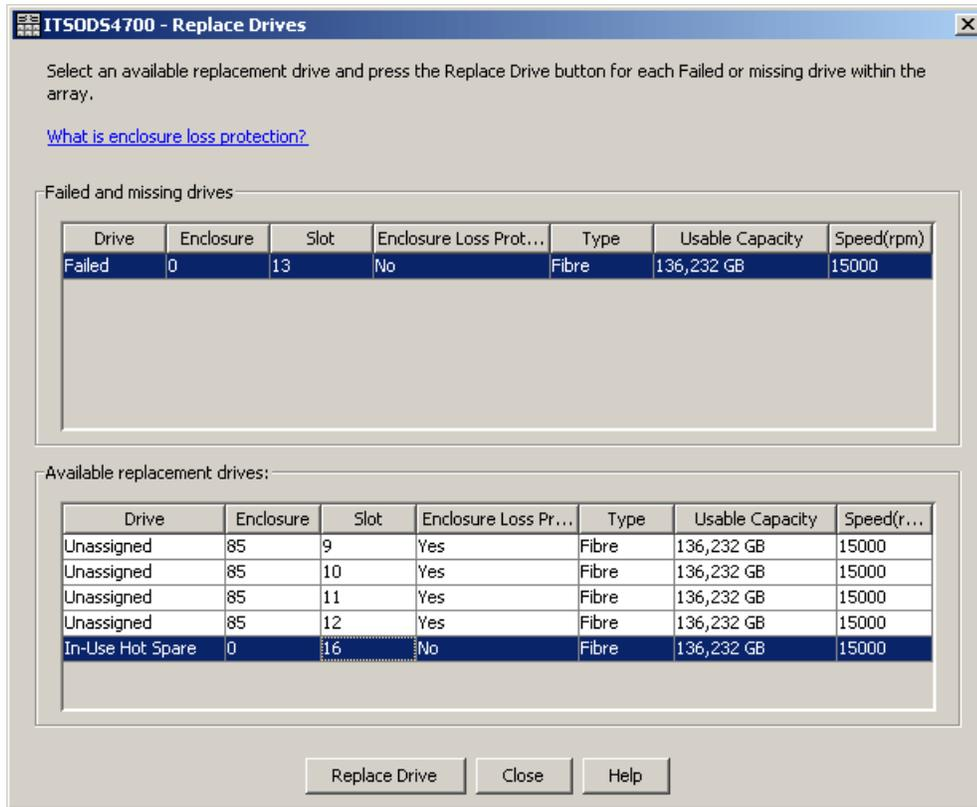

Figure 6-10 Replace drives option
1. Right-click the failed drive or select the drive and then select **Drive** → **Replace Drives**. See Figure 6-10.